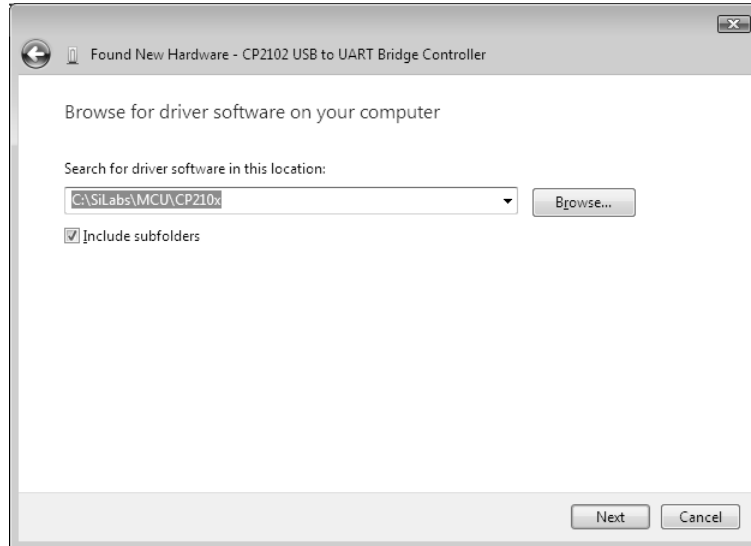

Fig. 47 New Hardware search wizard
- (10) The screen shown in Fig.47 appears. Select "**Search for driver software in this location:**" and input "**C:\SiLabs\MCU\CP210x**" in the blank directly or click **Browse** to select the folder. Also Check the box next to "**Include subfolders**". If you have installed the driver in a folder different from default setting, select the changed folder.